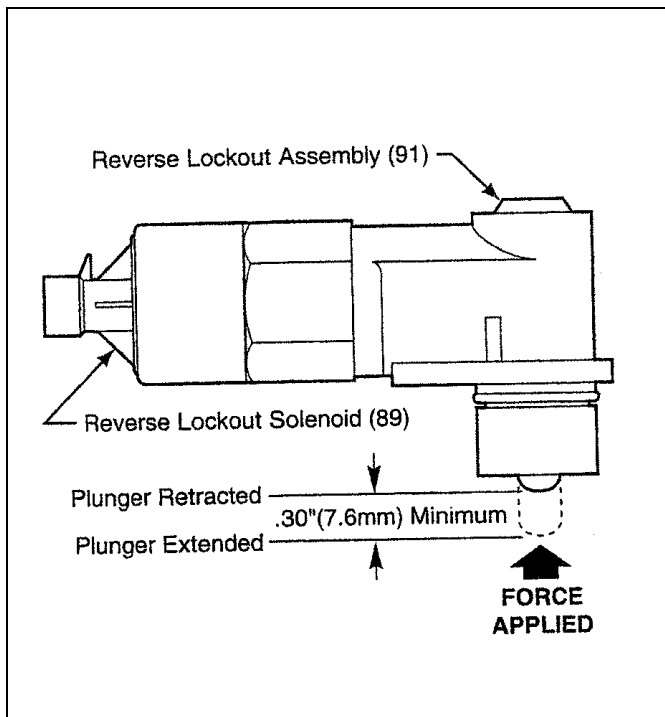

Figure 3-18. Reverse Lockout Assembly
- a. reverse lockout assembly (91). (See figure 3-18).
- a. Reverse lockout solenoid (89).